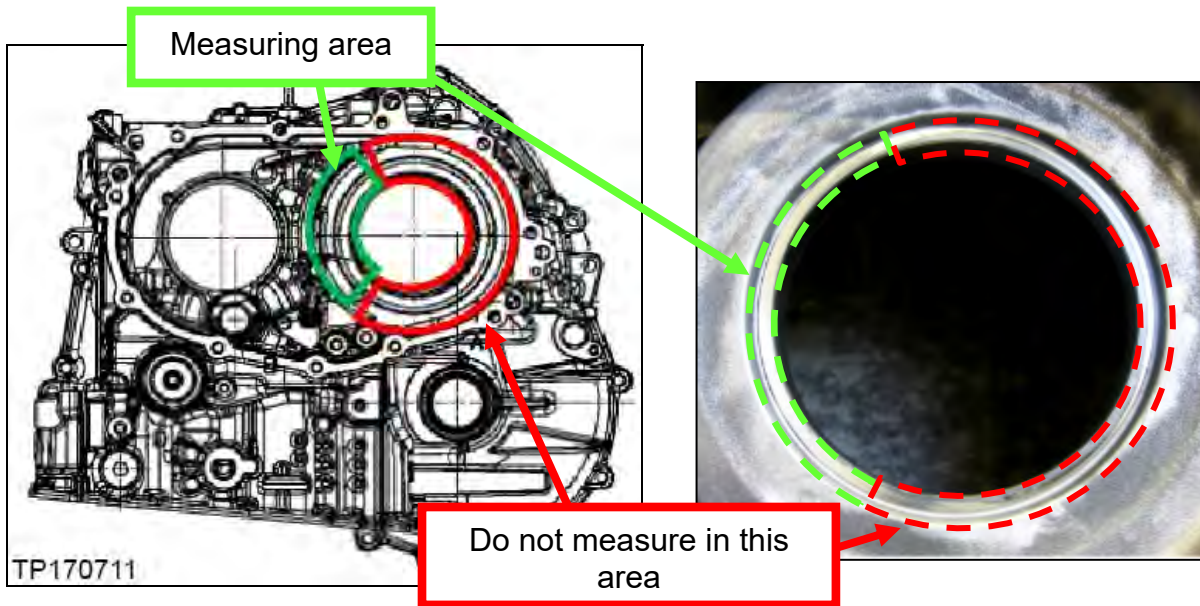

Figure 4M
- Refer to the Figures 4M and 5M and then proceed to page 57.
IMPORTANT: Please refer to Figure 4M for acceptable areas (highlighted in green) to measure “**Y**”.